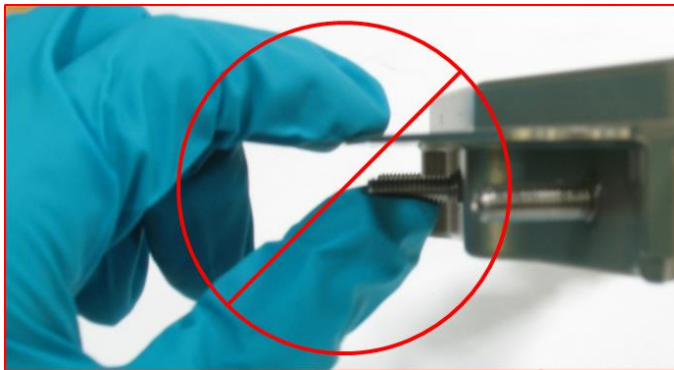

Figure 9: Do NOT touch spring plungers or allow them to contact the table.
2. Do not touch the spring plungers. Do not allow the spring plungers to contact or bump against anything. See Figure 9.